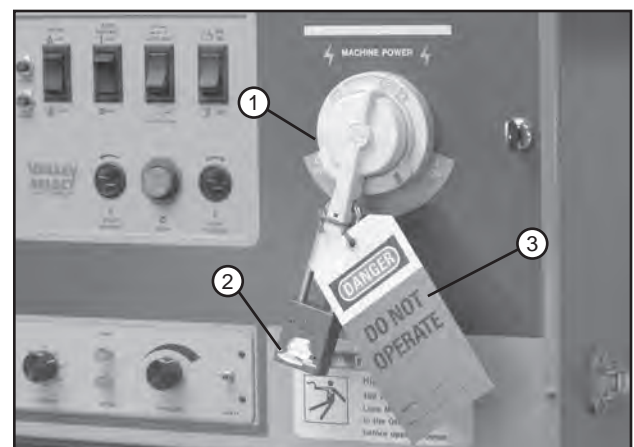

Figure 27-2
2. SHUT OFF and lock the control panel main power disconnect. See figure 27-2.
FILL OUT the blue (OSHA safety color code) tag and attach to the disconnect after locking. See figure 27-2.